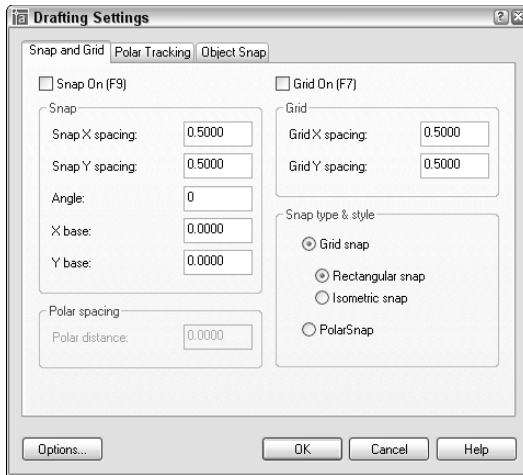

Figure 4-15: The Drafting Settings dialog box.
To set the snap size, choose Tools ⇨ Drafting Settings or right-click the SNAP button on the status bar and choose Settings. The Drafting Settings dialog box opens, as shown in Figure 4-15. (If necessary, click the Snap and Grid tab.) In the Snap X Spacing text box of the Snap section, type the spacing you want between snap points. Make sure that Grid Snap and Rectangular Snap are checked in the Snap Type & Style section of the dialog box. Click OK.
2. Check PolarSnap in the Snap Type & Style section of the dialog box (refer to Figure 4-15).
To set the grid size, choose Tools ⇨ Drafting Settings to open the Drafting Settings dialog box (refer to Figure 4-15). If necessary, click the Snap and Grid tab. In the X Spacing text box of the Grid section, type the spacing you want between grid points. Click OK.